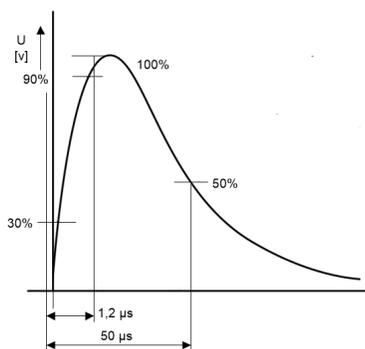

Figure 2. Surge Transient Waveform
- **Maximum surge isolation voltage (V_{IOSM}):** Quantifies the ability of the isolator to withstand very high voltage impulses of a certain transient profile. This waveform is shown in Figure 2. This parameter represents direct and indirect lightning strikes. As per IEC 60747-5-5 and VDE 0884-11, an isolator claiming a certain V_{IOSM} must pass the surge test at a peak voltage of 1.3 times V_{IOSM} for basic isolation, and 1.6 times V_{IOSM} for reinforced isolation. A digital isolator can be called reinforced at the component level, only if it passes the surge test at a level greater than 10kV.